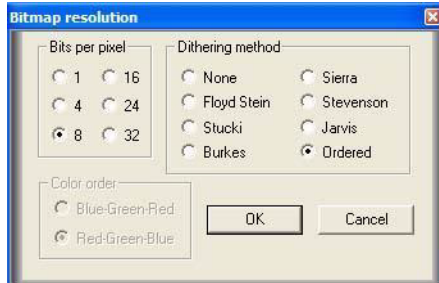

Figure 111
- 2 Using the **Change Resolution** tool, click on the image. When you do, the **Bitmap resolution** window opens to display information about the image. See figure 111.